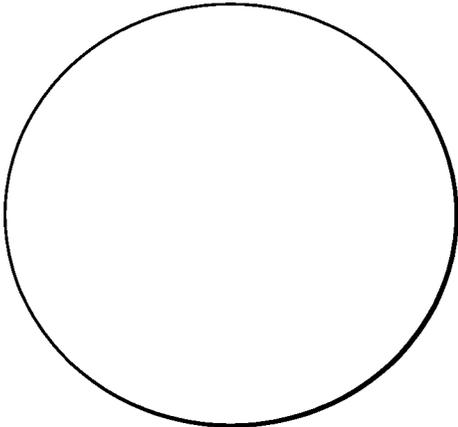

FIG. 1B
**[0010]** FIGS. 1B, 1C, and 1D show a cross section for example, cut across a plane of the poloidal movement of the torus topological grid;